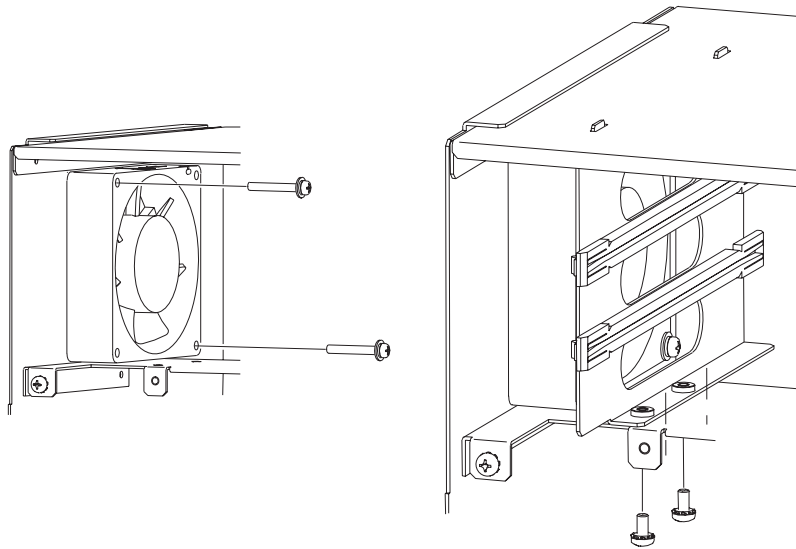

Figure 4-22 Removing the Fan Unit
4. Unscrew and remove the fan (see *Figure 4-22 Removing the Fan Unit*).